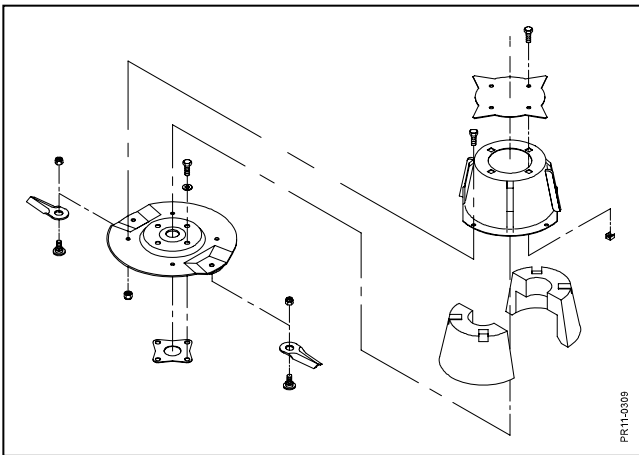

Fig. 5-6
- Fig. 5-6** The two flow intensifiers in the sides are filled with blocks of foam to avoid unbalance. It is important that the foam blocks remain undamaged so that the flow intensifiers are not filled with dust and dirt.